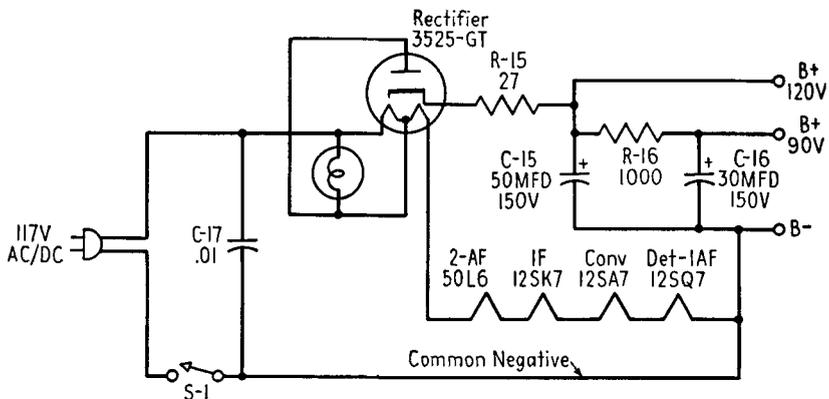

FIG. 18-11. Schematic diagram of a typical AC/DC power supply.
**Standard circuit.** The standard circuit is shown in Fig. 18-11.